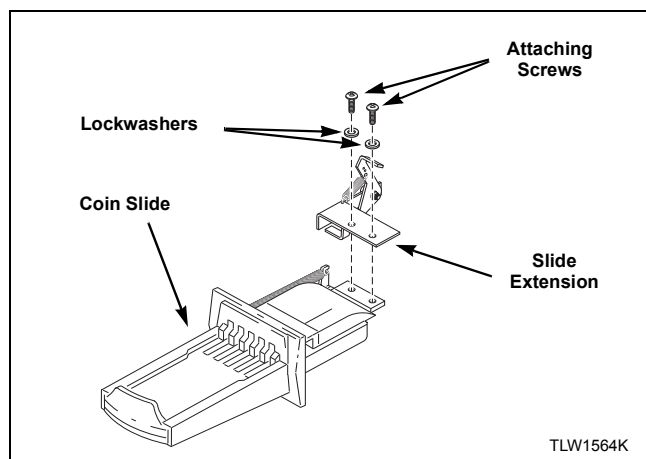

Figure 15
1. Install slide extension onto top of coin slide using two remaining screws and lockwashers. Refer to *Figure 15*.
3. Install slide extension onto top of coin slide using two screws and lockwashers. Refer to *Figure 15*.